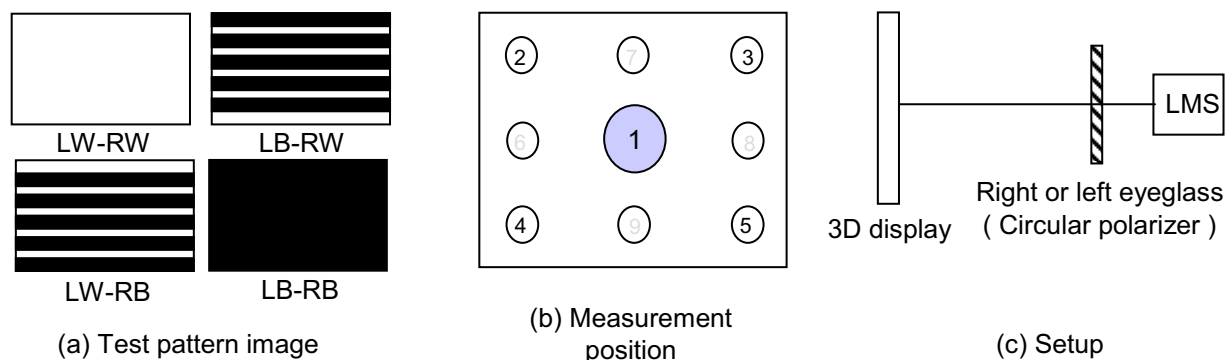

FIG. 13 Measurement configuration
- 3D performance specification is expressed by 3D luminance, 3D Crosstalk and 3D viewing angle. 3D luminance and 3D crosstalk is measured at center 1-point. For more information, see the FIG 13~16.